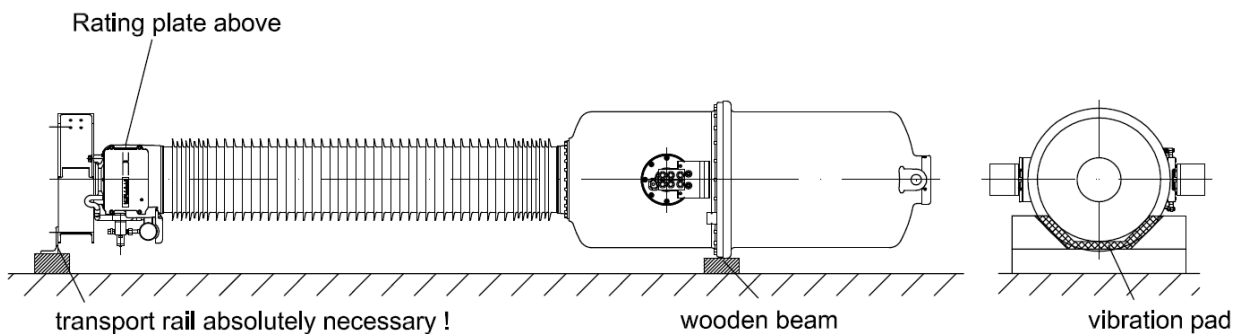

fig 2: Transport position (principle)
- Transportation in horizontal position. The terminal box is facing forward and is located to the side, the rating plate shows upwards and the density monitor is located upwards. (see Figure 2).
Put vibration pads between transformer and wooden wedges to protect the transformer against impacts (see Figure 2).